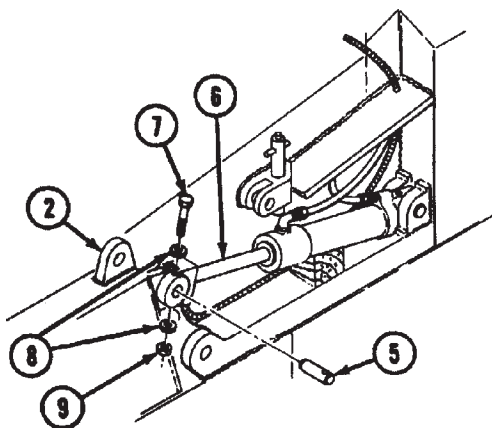

Figure 39. Hydraulic Cylinders.
Step 5 applies to Figure 39.
5. Coat apron hydraulic cylinder pins (5) with grease, and install two cylinders (6) on apron (2) with pins (5), screws (7), four washers (8), and two nuts (9). Remove chains from shackles. Remove blocks.